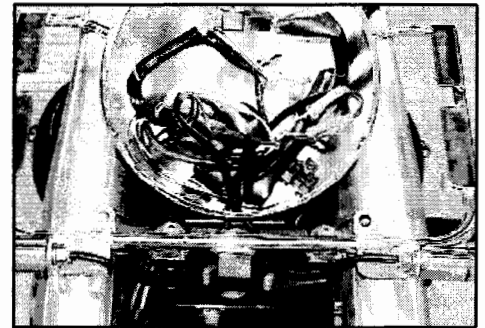

Figure 5
**9.** Install the two turn signal assemblies to the mounting bracket. Turn signal with black plug is right side, gray plug is left side. Tighten the nuts to 13N-m (9.5 lb-ft). Route the turn signal wires below and behind the lower tube of the mount bracket, then up into the headlamp housing through the hole in the bottom of the headlamp housing. Connect the black and gray plugs and the brown-to-gray and green-to-gray turn signal lead wires. Use the wiring clamps inside the headlamp housing to secure all wires. Before continuing with the installation, check that the turn signals flash on the correct sides and that the front running lights are lit. See Figure 5.